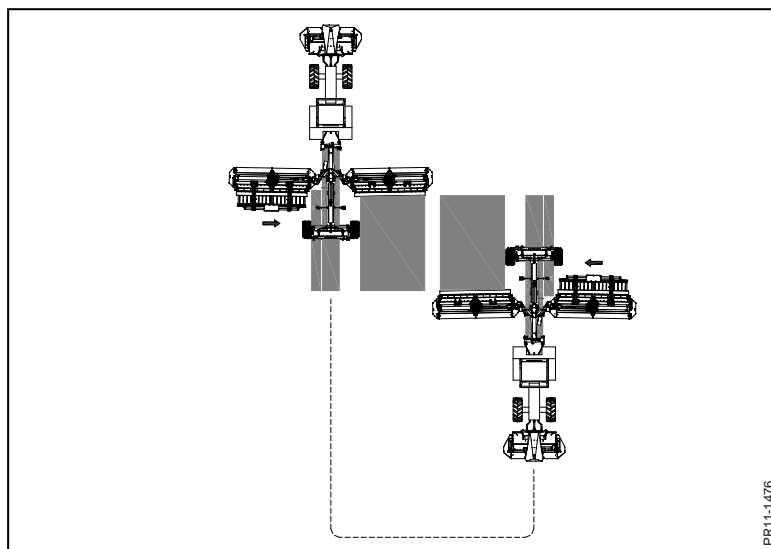

Fig. 3-18
**Fig. 3-18** One collector unit can be active while the other is inactive and folded up. After one round you have a swath of about 14 m. This function is used if you have a rake with a working width of more than 14 m. Then you can rake a swath together from about 24 m grass. You can also use it when mowing the outermost round to make a big distance between swath and field boundary so that the rake does not have to drive so close to fences etc.